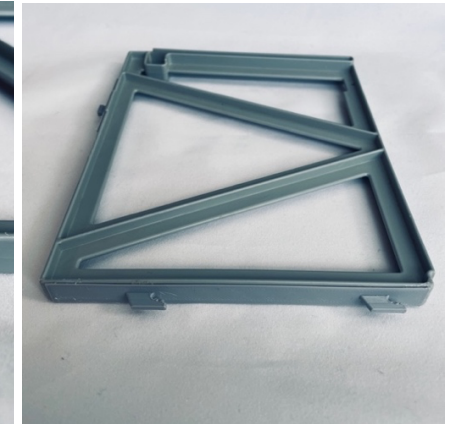

Figure 2: Elevator Side Support Hook Tab
STEP 3: The “Elevator Side Supports” also have two hook tabs on the side of each support (see Figure 2). If only one hook tab needs to be replaced, use scissors to cut the plate. Make sure the tabs are facing down when you glue them to the support.